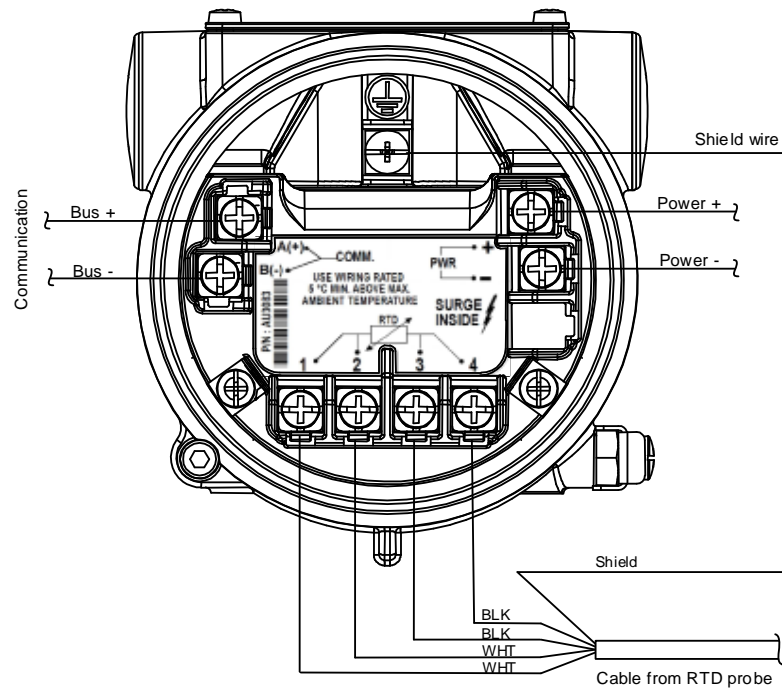

Figure 27: Termination block showing RTD, communication, and electrical connections
- a. Using a small phillips screwdriver, loosen the shield wire terminal (Figure 27).